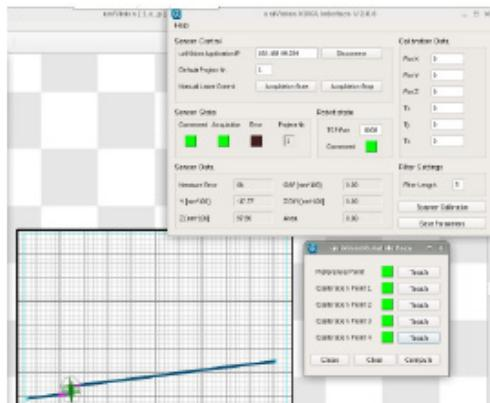

Fig. 26: Teaching calibration points Pref...P4
You start using the robot interface at 9. and after having teached all calibration points the displays of Pref, P1, P2, P3 and P4 turn green (see Fig. 26).
9. Run the calibration program from the robot controller. The robot at first will build a connection to the uniVisionKukaInterface and switch on the laser in the 2D/3D Profile Sensor. Then the robot will travel to the positions Pref, P1, P2, P3 and P4. Each time the robot reaches a saved point, click on teach button related to each point in the calibration window in uniVisionKukaInterface (see Fig. 26).